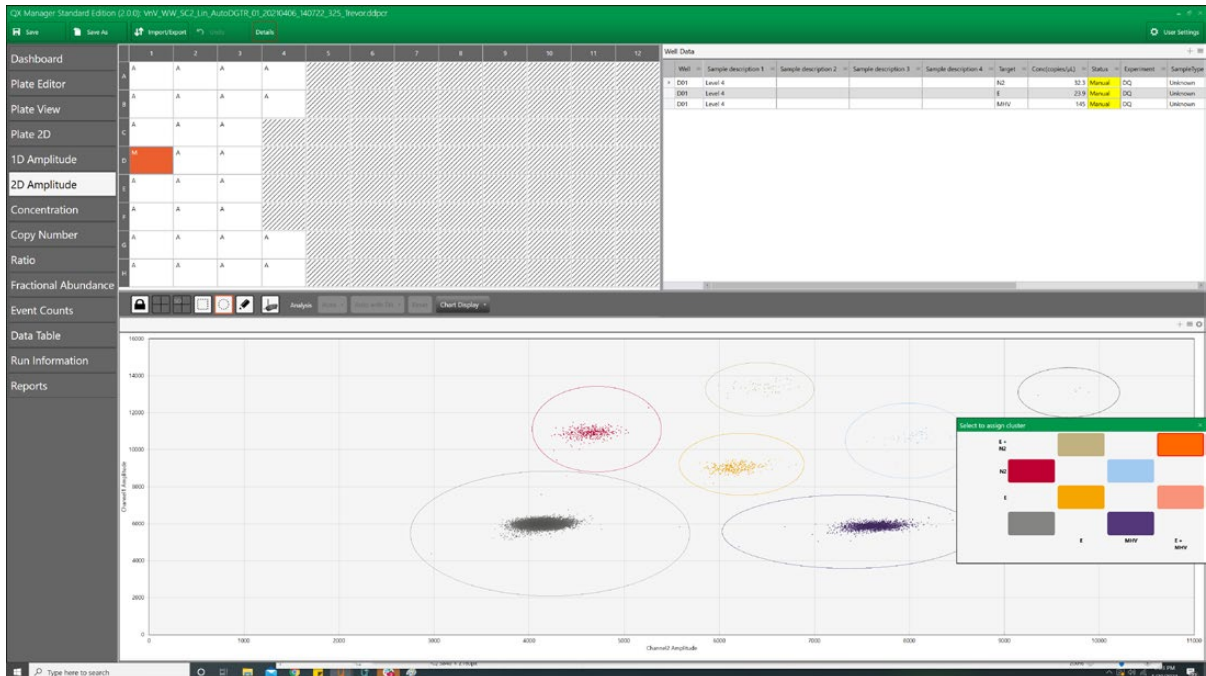

Fig. 18. N2, E, and MHV triple-positive cluster.
- At a 45° angle from the E and MHV double-positive cluster is the **N2**, **E**, and **MHV** triple-positive cluster corresponding to droplets that are positive for all three targets (Figure 18).